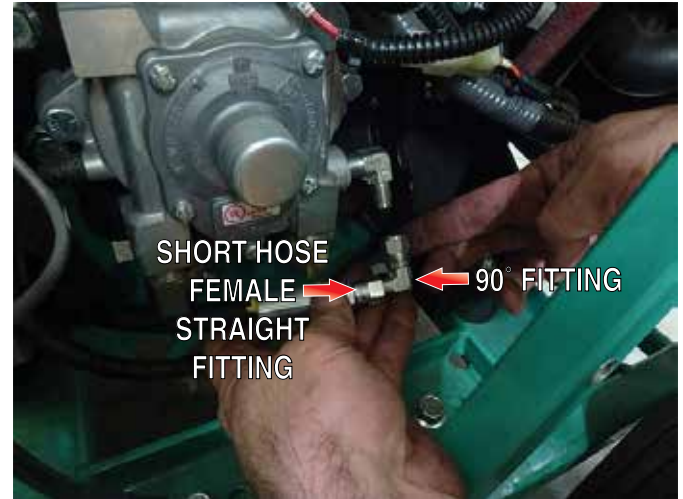

Figure 24. Connect Hose to Fitting
20. Insert male end of 90° fitting (P/N 366640) into short hose (P/N 46301) female straight fitting and tighten securely. Reference Figure 24.